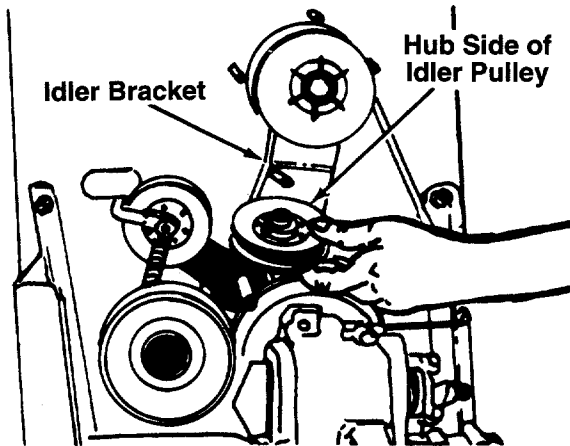

FIGURE 21.
10. Upon reassembly of idler pulley, be certain the hub side of idler goes against the idler bracket. See figure 21.